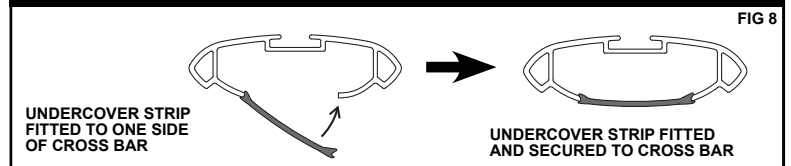

FIG 8
- Pull back the Buffer Strip to allow access to the end of the Cross Bar. Insert End Cap into the Cross Bar by locating the two 'feet' of the End Cap into the void inside the Cross Bar (Fig. 8).
8. Place one side of the Undercover Strip into the position as shown in Figure 8. Apply pressure along the edge of the Undercover Strip until the whole length is clipped securely into position.